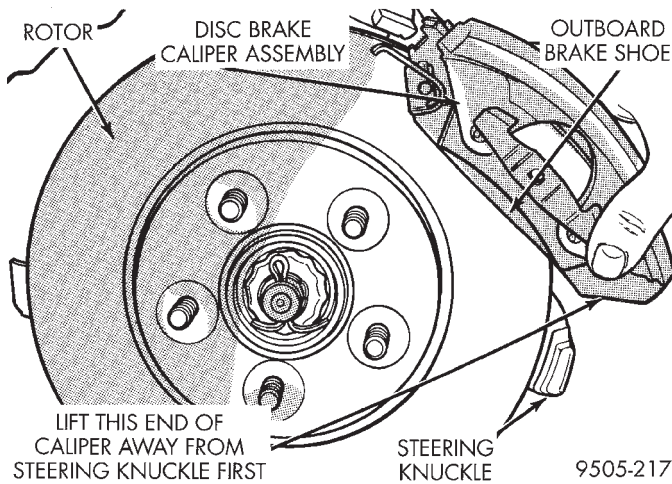

Fig. 5 Removing Disc Brake Caliper
(6) Remove disc brake caliper assembly from steering knuckle. Caliper is removed by first lifting bottom of caliper away from steering knuckle, and then removing top of caliper out from under steering knuckle (Fig. 5).